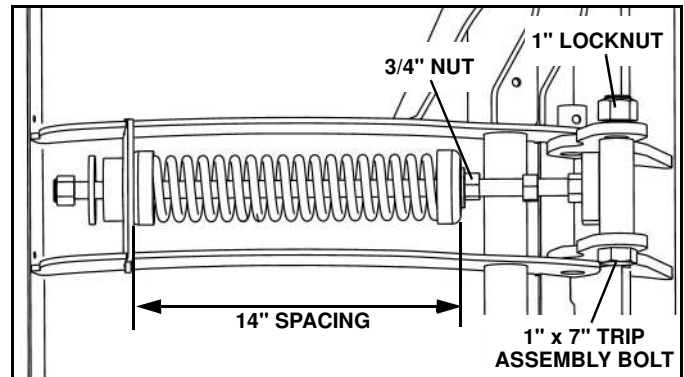

Figure 1-11
13. Install a 1" locknut on the trip bolt. Tighten the nut to remove all freeplay from the bolt, but still allow it to spin in the mounting holes and saddle (See Figure 1-11)